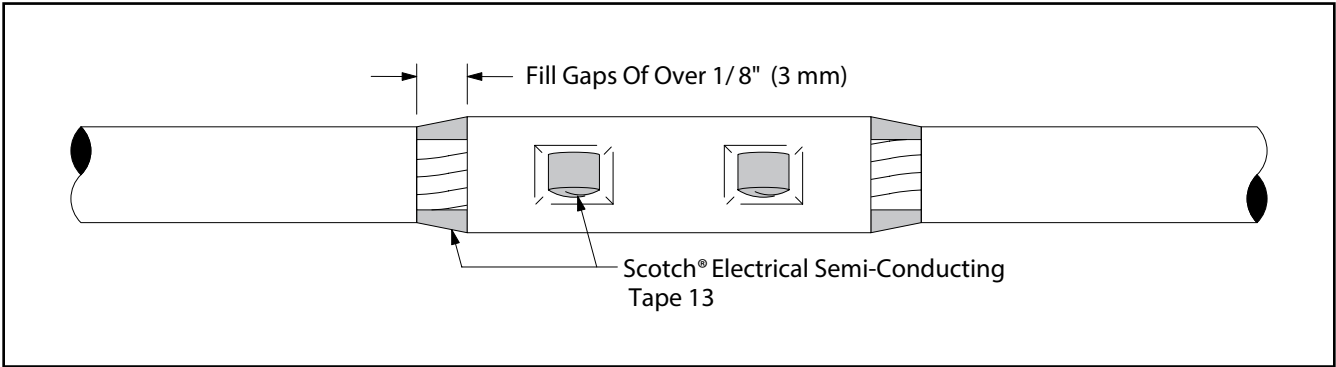

Figure 7
4.2 **FOR INDENT CRIMPED CONNECTORS ONLY:** Fill connector indents with 13 tape (*Figure 7*).